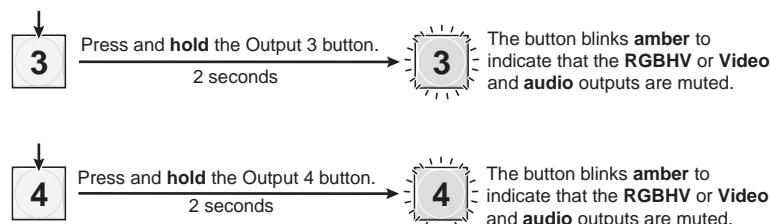

Figure 3-53 — Mute the outputs
4. One at a time, press and hold the Output 3 and then the Output 4 buttons (figure 3-53) for approximately 2 seconds until the buttons begin to blink. The output 3 and output 4 video and audio signals are muted.